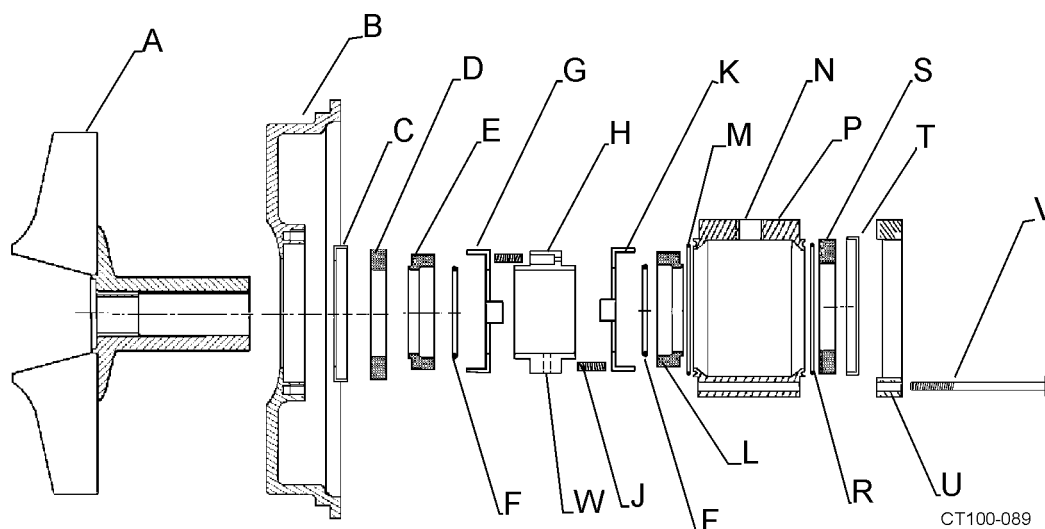
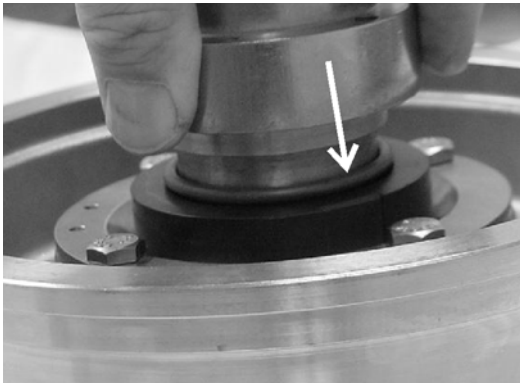

Figure 18 - Type 4 Seal Components
Figure 20 - Installing the O-ring using the Spring Retainer.
2. Install L-gasket in backplate. (Figure 18, items B and C).
3. Install L-gasket in seat retainer. (Figure 18, item T).
4. Install stationary seals (Figure 18, item S) in L-gaskets.
7. Place O-ring (Figure 18, item F) on shaft and use spring retainer to push O-ring into rotary seal. (Figure 20).
8. Place washer (Figure 18, item G) over rotary seal with tabs in the outside diameter notches.
9. Place three springs (Figure 18, item J) in one side of spring retainer (hold them in place with silicone sealer) and slide the spring retainer (with the springs down) onto impeller shaft against washer.
10. Place the remaining three (3) springs in the spring retainer.
11. Slide the washer and O-ring (Figure 18, items K and F) onto the shaft against the spring retainer.
13. Remove 1/4 NPT plug from center port on flush housing. (Figure 18, item N).
14. Install an O-ring (Figure 18, items R and M) in both ends of housing.
15. Install L-gasket in seat retainer. (Figure 18, items T and U).
16. Install stationary seal (Figure 18, item S) in L-gasket.
18. With flush ports facing away from the backplate place seat retainer (Figure 18, item U) on housing.
19. Tighten seat retainer in place with four (4) hex screws (Figure 18, item V).
24. Tighten set screws in the spring retainer through 1/4 NPT center port in flush housing. (Figure 18, item N).